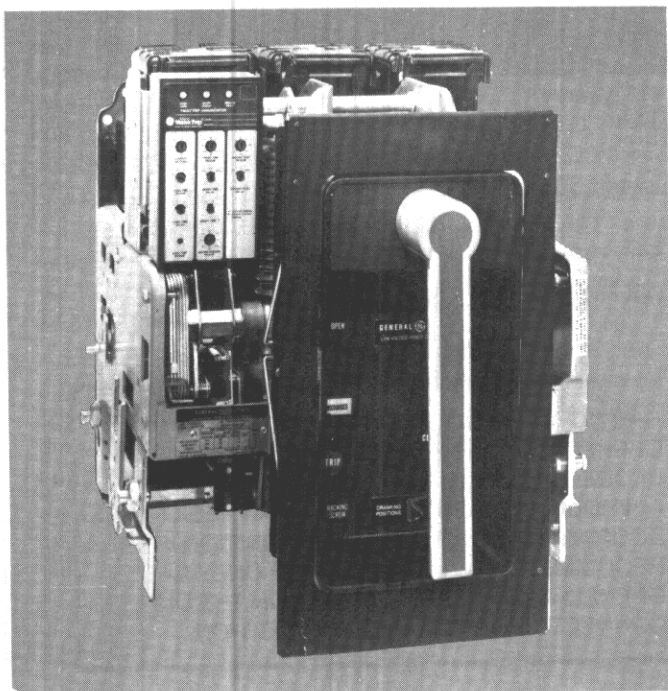

Fig. 3-13. AKR-30S circuit breaker
A. AKR-30S Circuit Breaker (Fig. 3-13)